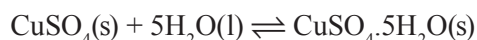

**Figure 8.16** Anhydrous copper(II) sulfate is a white powder which turns blue when water is added to it
When water is added to anhydrous copper(II) sulfate, the reverse process occurs. It turns blue and the pentahydrate is produced (Figure 8.16). This is an extremely exothermic process.